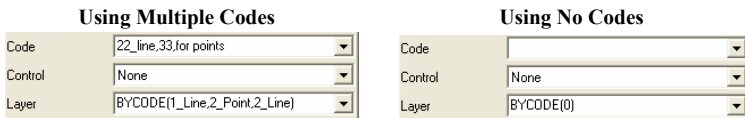

Figure 4-22. Layer Determination when Applying Codes
- If the point has multiple codes, setting the Layer to “BYCODE” forces it to belong to multiple layers (Figure 4-22).
- If the point has no code, setting Layer to “BYCODE” forces the point to belong to layer 0 (zero) (Figure 4-22).